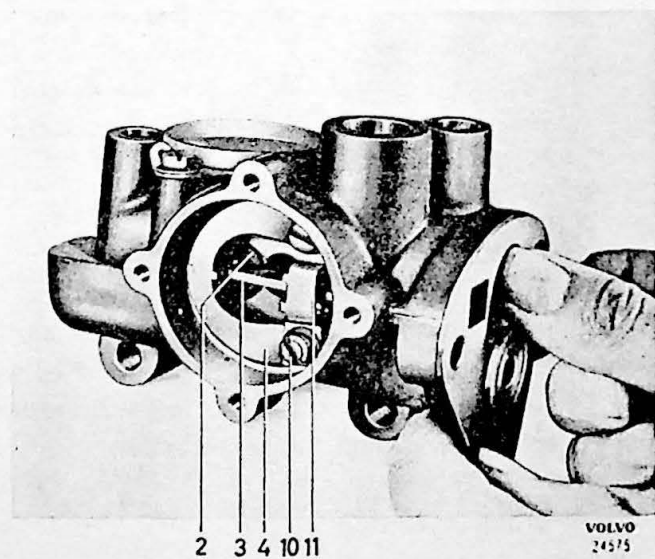

Fig. 7-26. Testing the control device
3. Fit the valves (2 and 12, Fig. 7-5) onto the valve arm (3) and place the unit in position in the housing. Fit the spring (4), yoke (11), washers and bolts (10). Test the function by pressing the control plunger (30) backwards and forwards (Fig. 7-26) when the valve should close and open respectively. In the normal position the valve nearest the flange